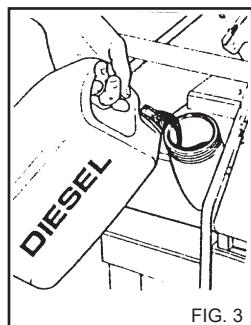

FIG. 3
Fill the tank with fuel for Diesel motors (fig. 3).
2) Start the cleaner, turn on the detergent tap (if present), switch on the detergent suction control on the lance (fig. 3) and spray the dirty surface with the diluted product, working from bottom to top.